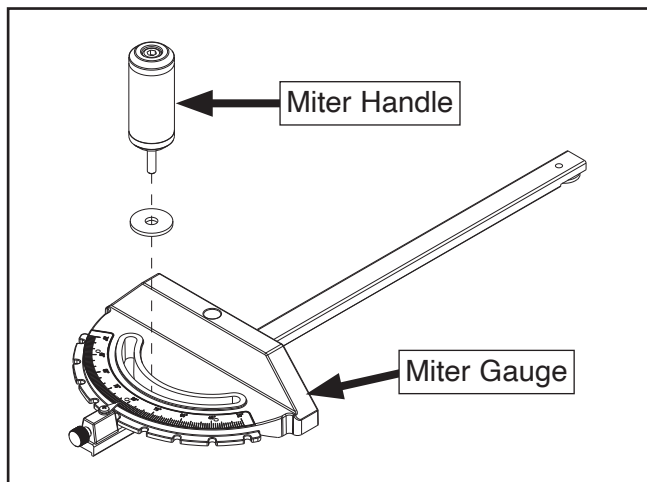

Figure 31. Installing miter handle.
32. Install miter handle and 6 x 20mm flat washer into miter gauge (see **Figure 31**).